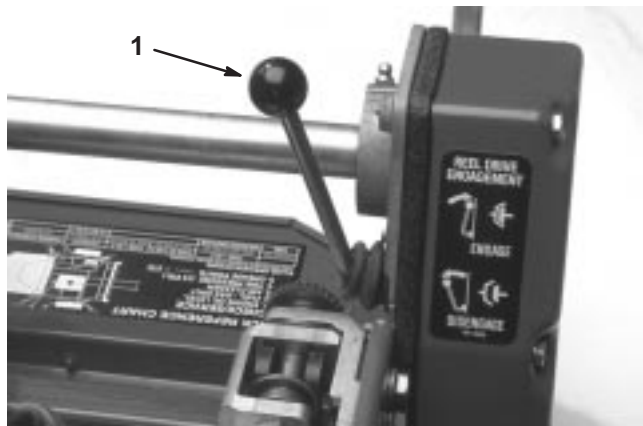

Figure 22
Reel Drive Lever (Fig. 22)
1. Ensure that the traction (Fig. 21) and reel drive (Fig. 22) levers are in the Disengaged position.